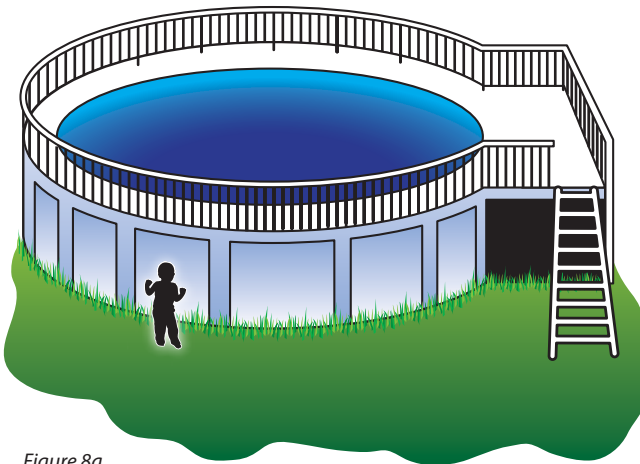

Figure 8a
12. Where an **above ground pool structure is used as a barrier** or where the barrier is mounted on top of the pool structure, and the means of access is a ladder or steps (figure 8a), then